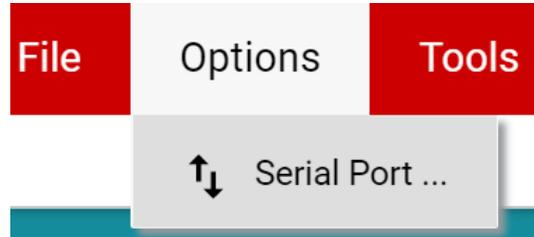

Figure 3-7. Change Serial Port
- a. If *Hardware Connected* does not show in the bottom-left hand corner of the GUI, check different hardware COM ports under *Options* → *Serial Port* (see Figure 3-7).